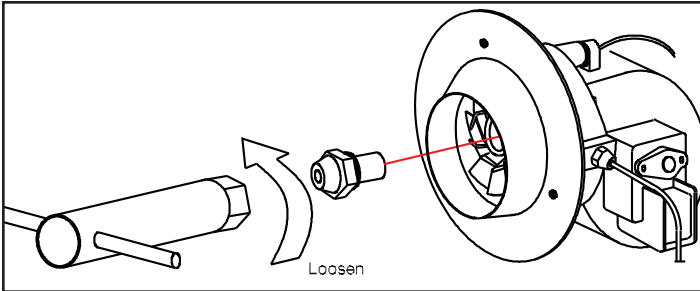

Figure 6. Nozzle Removal
- To clean dirt from nozzle, blow compressed air through nozzle front. It may be necessary to soak nozzle in clean 1-K kerosene to help loosen any particles (**Figure 6**).